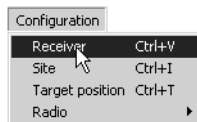

Figure 2-5. Configuration->Receiver
2. Once connected, click **Configuration->Receiver** (Figure 2-5).